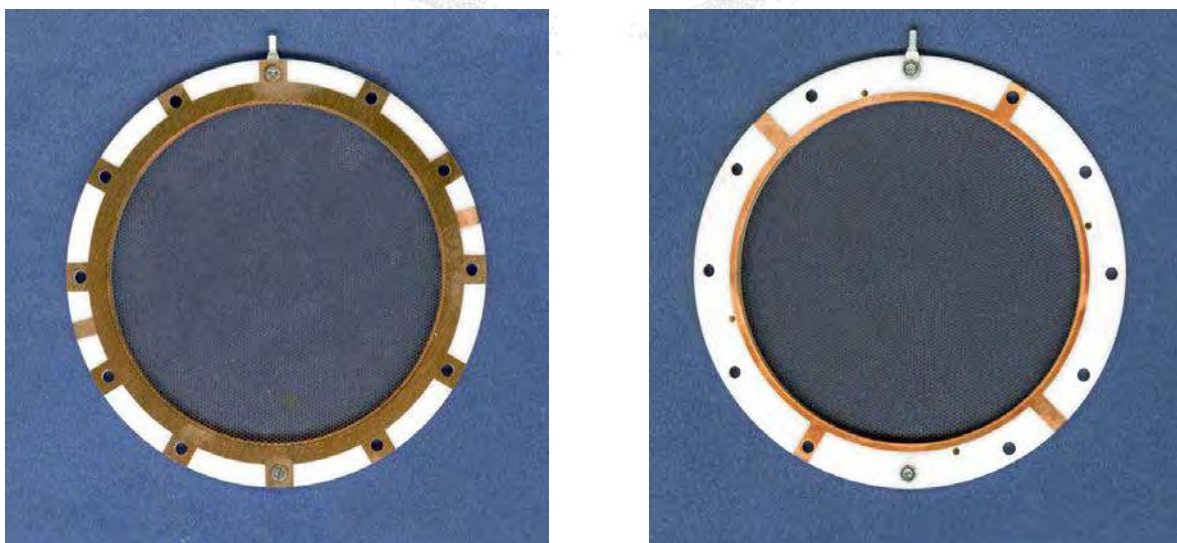

Figure 1.8: Free-standing mesh mounted to the MCP front ring (left: front side, right rear side of the front ring).
- to rotate the ring on the holder plate such that the screw is located at or near the holes along the diagonal (see Figure 1.8). Any other contact or mounting screw (i.e. for a mesh) cannot be on the same azimuthal position later.